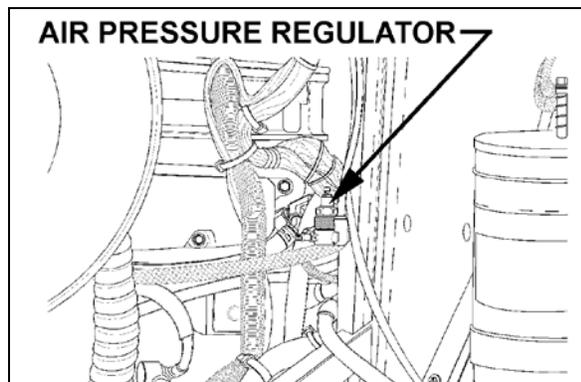

FIGURE 9: AIR PRESSURE REGULATOR (TYPICAL) 07037
18. Adjust the retarder pressure to 80 ± 3 psi with the air pressure regulator. For more information refer to Section 12, "BRAKE AND AIR SYSTEM", under heading "AIR PRESSURE REGULATOR". The air pressure regulator is located at back of engine compartment, on R.H. side (Figure 9) or in the R.H. side rear service compartment.